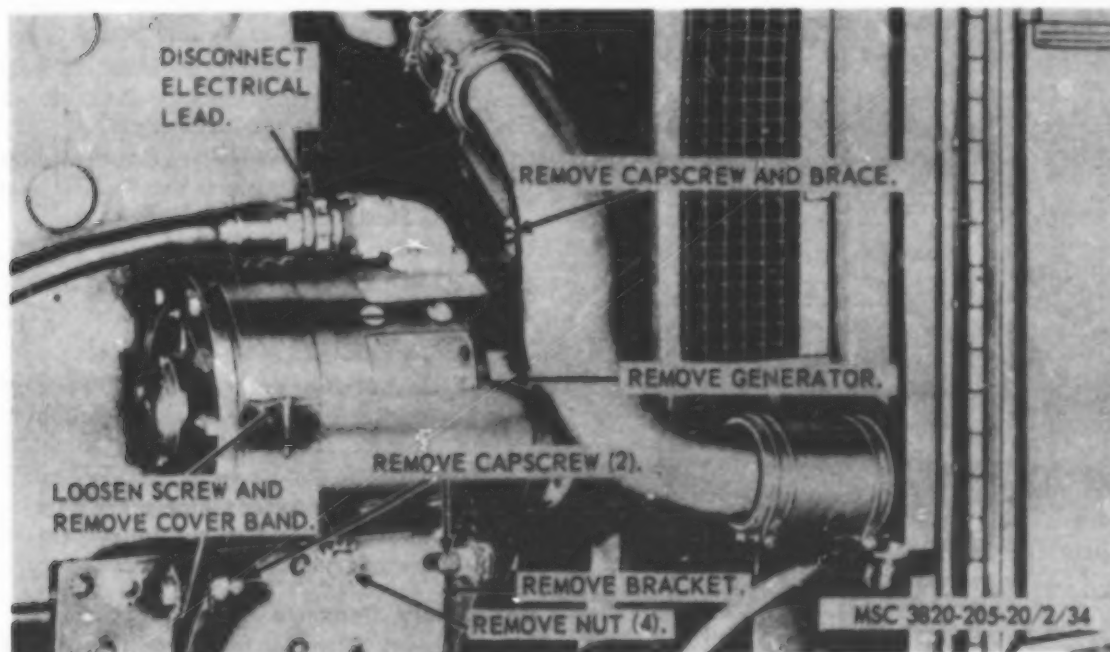

Figure 33. Generator, band, and mounting bracket, removal and installation.
- (2) Start engine and slowly build up rpm to operating speed. Observe voltmeter. The minimum voltage is 27.5 volts.
- (3) If voltage is not built up to required value, generator is defective and must be replaced.
b. *Removal.* Remove the generator from the engine as instructed on figure 33.
- (1) Install the generator and mounting bracket on the engine in reverse of the instructions on figure 33.
- (2) Install the generator regulator (par. 79) if removed.
- (3) Adjust generator belts (TM 5-3820-205-10).